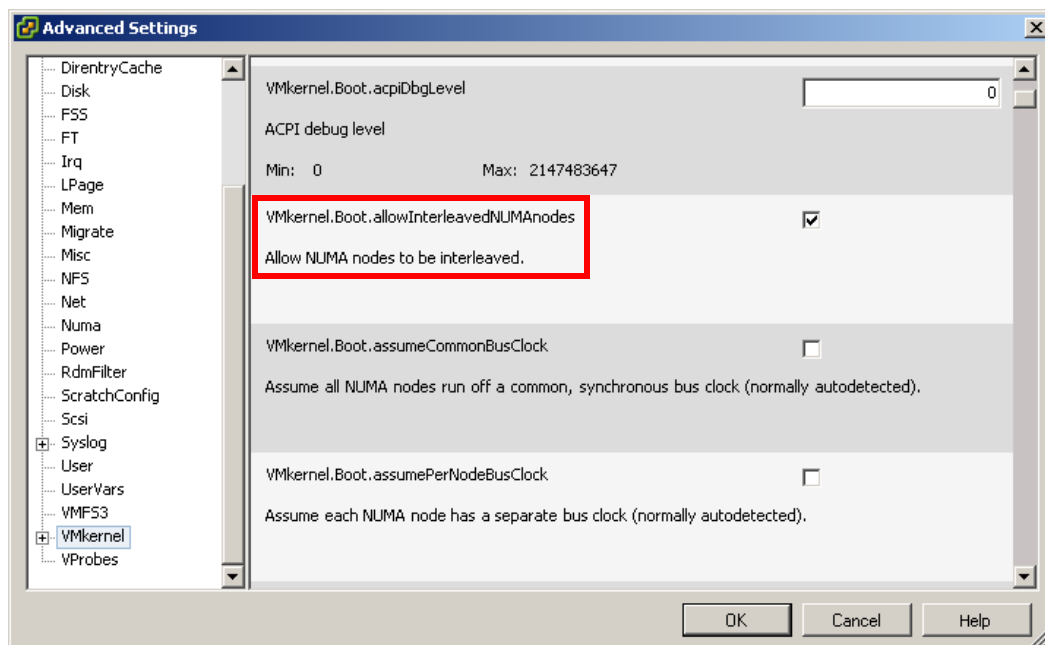

Figure 6-52 Editing the VMkernel settings in vSphere Client Advanced Settings
6. Click **VMkernel** and select the check box next to **VMkernel Boot.allowInterleavedNUMAnodes**, as shown in Figure 6-52 on page 274.